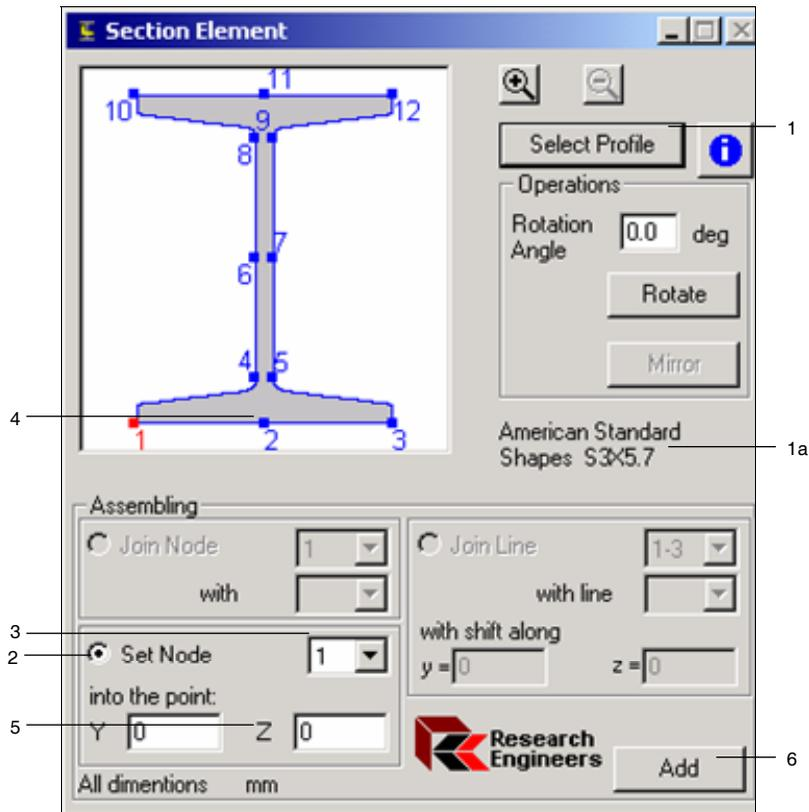

Fig. 55 Sequence of actions for setting the first node of a section
- 1] specify the first element of the designed section in the Section Element dialog box (Fig. 55), e.g. American Standard Shapes S3×5.7 [1a]